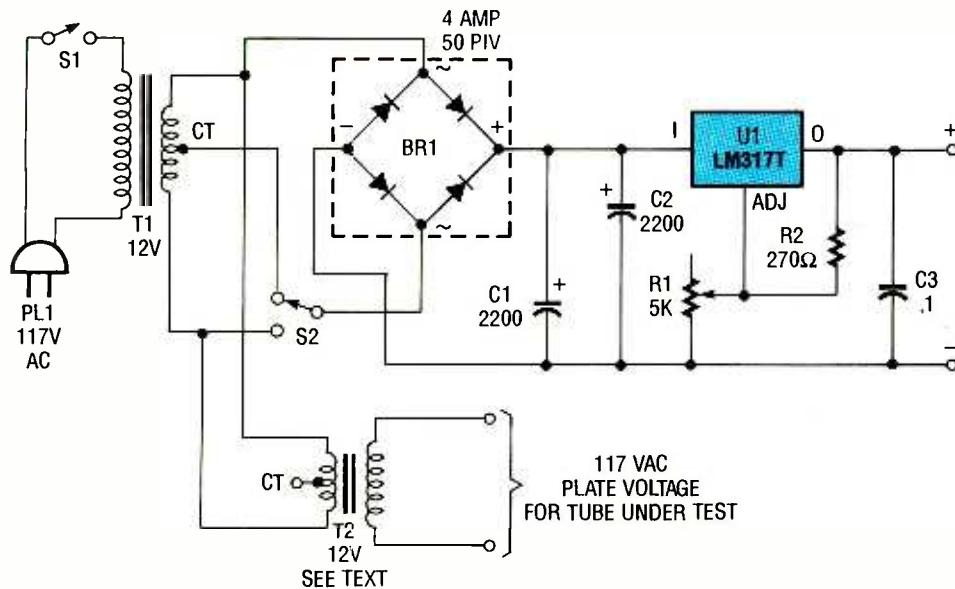

Fig. 1. Schematic of the regulator circuit. (T2 is not part of regulator—see text.)
Figure 1 shows an LM317T regulator circuit suitable for use as a filament/heater power supply in our tube tester. Regular readers will recall seeing an almost identical circuit in August, where it was mentioned as an example of a power supply that could be used
Our first entry is a 10-step staircase generator (see Fig. 1). Staircase generators are circuits that produce an increasing or decreasing stepped voltage or current.
*Fig. 1. This 10-step staircase generator is a manually operated circuit built around a 4017 decade counter/divider and one fourth of a 4093 2-input NAND Schmitt trigger, which is used as a switch-debouncing circuit.*
The stepping generator in Fig. 1 is a manually operated circuit built around a 4017 decade counter/divider, U2. One fourth of a 4093 2-input NAND Schmitt trigger (U1-a) is used as a switch-debouncing circuit; its job is to ensure that one and only one clock pulse is applied to pin 14 of U2 each time S1 is closed. The values of C1 and R1 are selected to give a time constant that's longer than the closing transition time of S1. The values specified work well with most available switches. However, if you happen to select a really noisy switch, the values of C1 and/or R1 can be increased to extend the time period to cover for S1's poor performance.
The staircase generator can easily be converted into a self-generating circuit by reconfiguring U1-a to conform to the schematic diagram shown in Fig. 2, and then feeding its output to pin 14 of U2 in Fig. 1. Simply remove S1 and R1 from the circuit and series connect a 10k fixed resistor and 1-megohm potentiometer in the feedback loop as shown.
The simple circuit in Fig. 3 adds yet another dimension to the staircase-generator circuit in Fig. 1; this one allows any or all of the output steps to be increased in length (time duration). Transistor Q1 (a 2N3904 general-purpose NPN unit) operates as a switch. When Q1 turns on placing C1 in Fig. 3 in parallel with C1 in Fig. 2, the higher capacitance created (remember capacitors in parallel add like resistors in series), lowers the oscillator circuit's normal operating frequency.
## PARTS LIST FOR FIG. 1